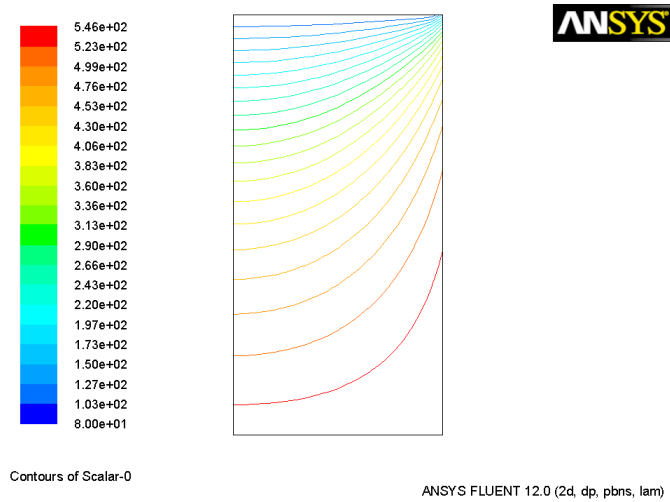

Figure 4: Contours of ϕ
2. Click Display (see Figure 4).